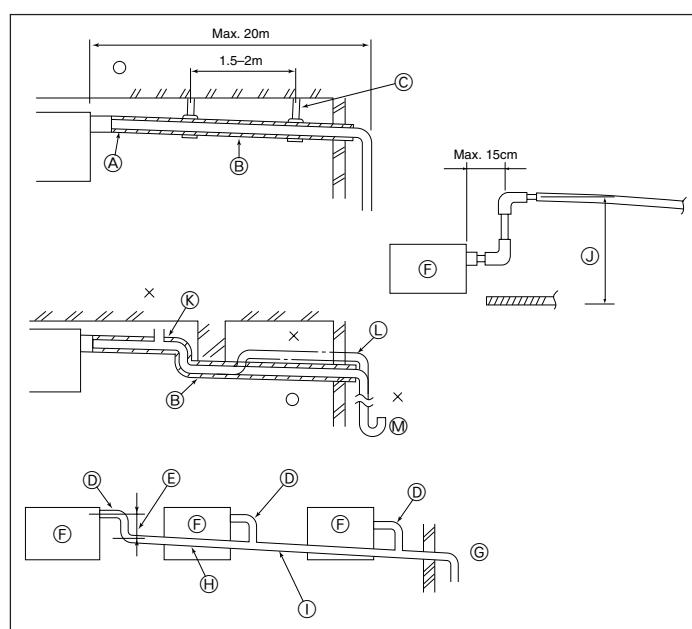

Fig. 3-4
3.4. Drainage piping work (Fig. 3-4)
- ① Correct pipetting
- ① Correct piping
- ② Wrong piping